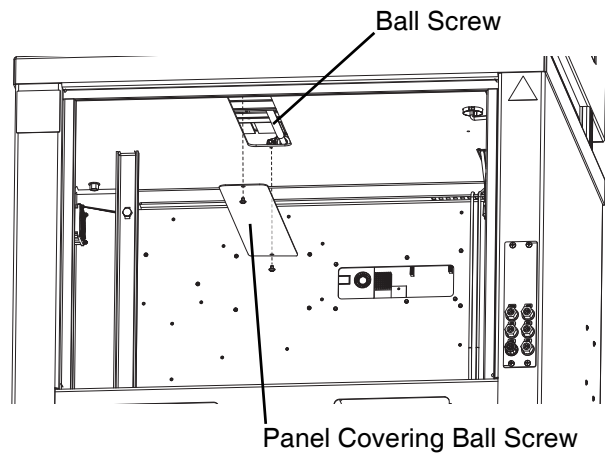

FIG. 18: Remove Ball Screw Cover
NOTE: Access to the ball screw is through the rear, lower panel of the machine. See **Figure 18**.
4. Use a Phillips head screw driver to remove the two screws from the small panel covering the ball screw. See **Figure 18**.